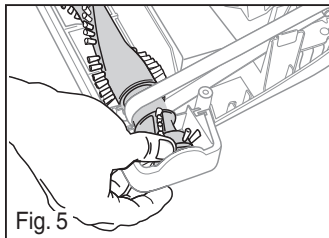

Fig. 5
- 3) Secure right end cap into base (Fig. 5).